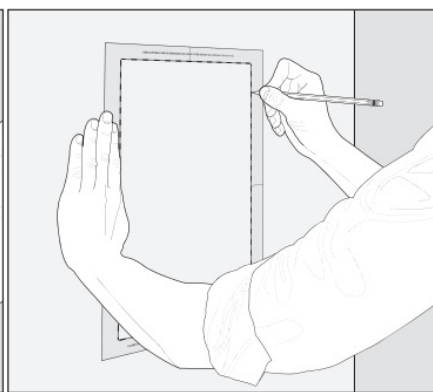

Fig. 2b
- 2) Trace along the mounting template cut-out (Fig. 2b).